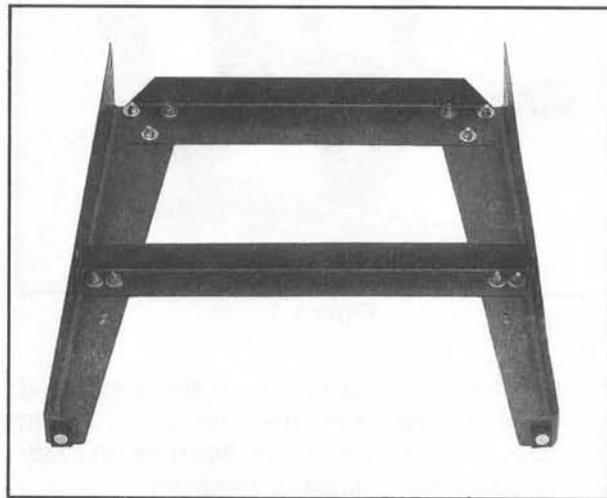

Figure 4. Assembled side panel.
2. Locate the long upper and lower side braces (2 each) and bolt to the legs using the M8-1.25 x 16mm Carriage Bolts, 8mm Flat Washers and M8-1.25 Hex Nuts Supplied. **Figure 4.** Do not tighten any stand bolts until **Step 6.** Finger tighten only for now.